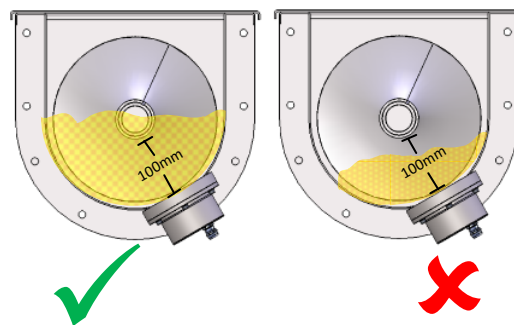

Figure 7: Screw Conveyor Material Level
- Maintain a stable material fill level, ensuring that the depth of material in front of the sensor's ceramic disc remains above 100 mm at all times (see Figure 7).